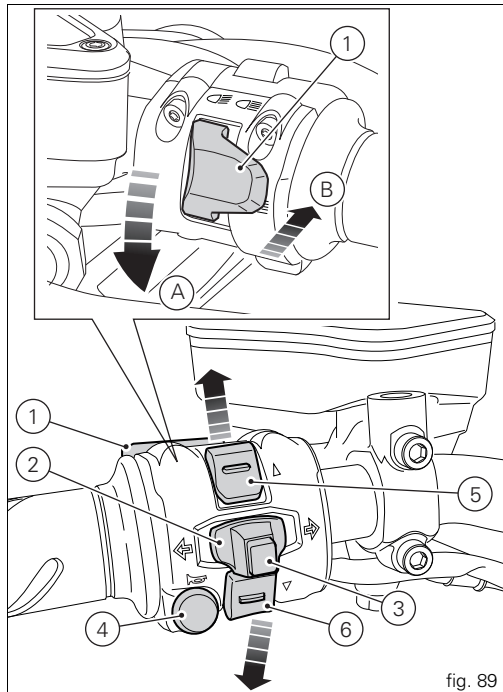

fig. 89
## LH switch (fig. 89)
- 1) Dip switch, light dip switch, two positions (fig. 89):
- 2) Button  = three-position turn indicator (fig. 89):